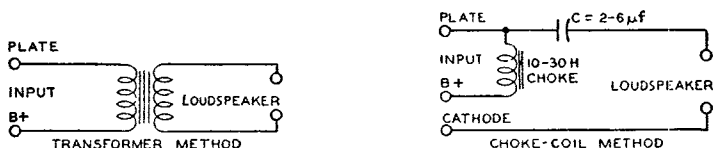

Fig. 72
Output-coupling devices are of two types, (1) choke-capacitor and (2) transformer. The choke-capacitor type includes an iron-core choke with an inductance of not less than 10 henrys which is placed in series with the plate and B-supply. The choke offers a very low resistance to the dc plate current component of the signal voltage but opposes the flow of the fluctuating component. A bypass capacitor of 2 to 6  $\mu\text{f}$  supplies a path to the speaker winding for the signal voltage. The transformer type is constructed with two separate windings, a primary and a secondary wound on an iron core. This construction permits designing each winding to meet the requirements of its position in the circuit. Typical arrangements of each type of coupling device are shown in Fig. 72. Examples of transformers for push-pull stages are shown in several of the circuits given in the **CIRCUIT SECTION**.